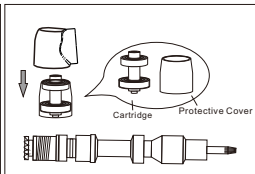

Fig. 1.4
3. Take the cartridge and cartridge set out ,replace the new cartridge. as shown in figure 1-4.
4. After Replacing the new cartridge ,use the loading tool to tighten the back cover and shaft ,You must aim for insert of the fuselage, as shown in figure 1-4, tighten screw of the tail part